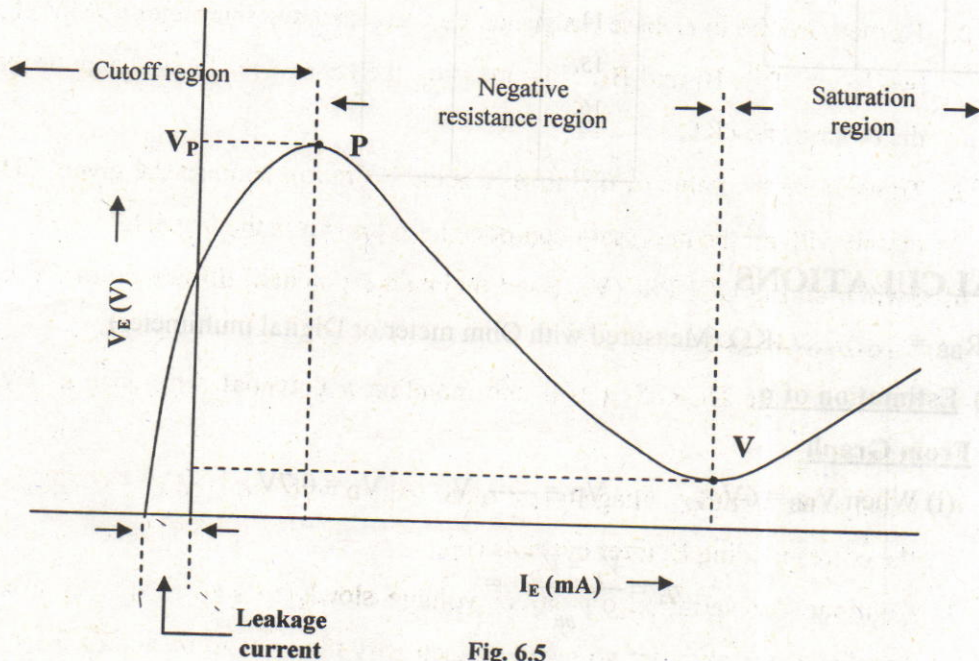

Fig. 6.5
10. Draw a graph by taking the variable ' I_E ' along the X-axis and variable ' V_E ' along Y-axis as shown in Fig.6.5.
Oscillator is an electronic circuit that generates sinusoidal or non sinusoidal waveforms on its own without any input. The circuit that generates sawtooth waveform is called a Relaxation oscillator. It is so called because the output varies linearly with time and drops suddenly (relax) to zero. On account of the negative resistance region exhibited by UJT and its particular behaviour, the UJT finds its application in a variety of circuits. They are: Relaxation oscillator, switching, sawtooth wave generator, timing circuits, amplification, voltage or current regulated supplies. Fig.6.5 shows the circuit of UJT as relaxation oscillator. In this, the discharging of a capacitor through UJT can develop a sawtooth output as shown in Fig.6.6.